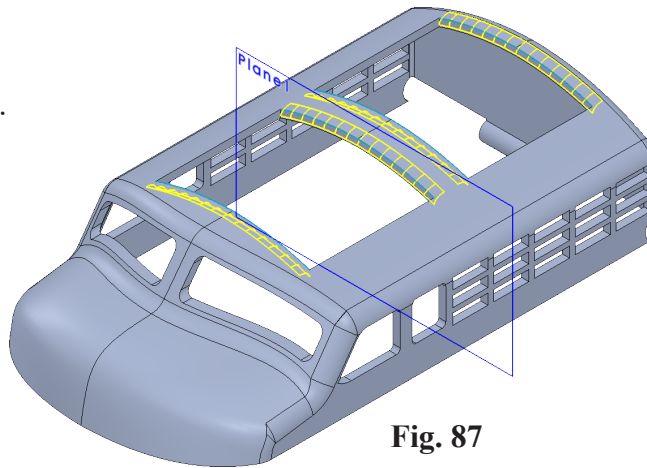

Fig. 87
click **edges at front and rear of solar panel cuts (8)**, **Fig. 87**